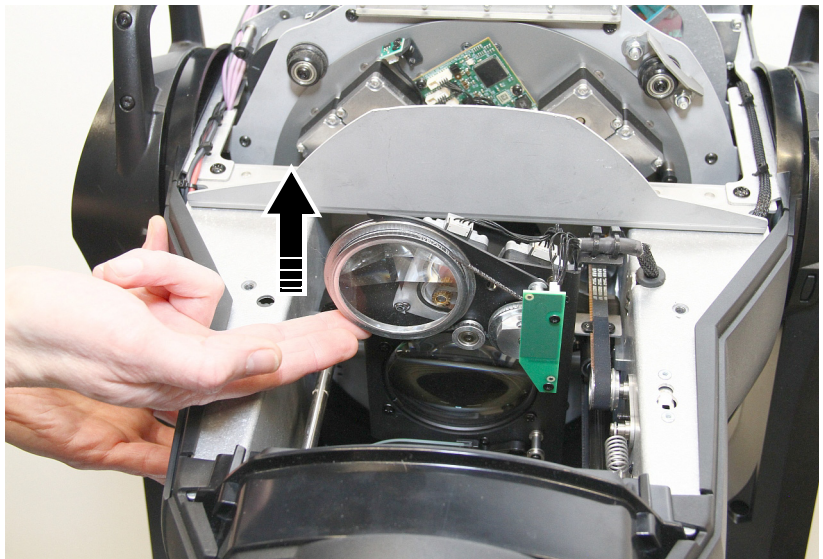

Figure 21: Lifting up the prism
3. See Figure 21. Lift the prism up towards you so that you have good access to it.